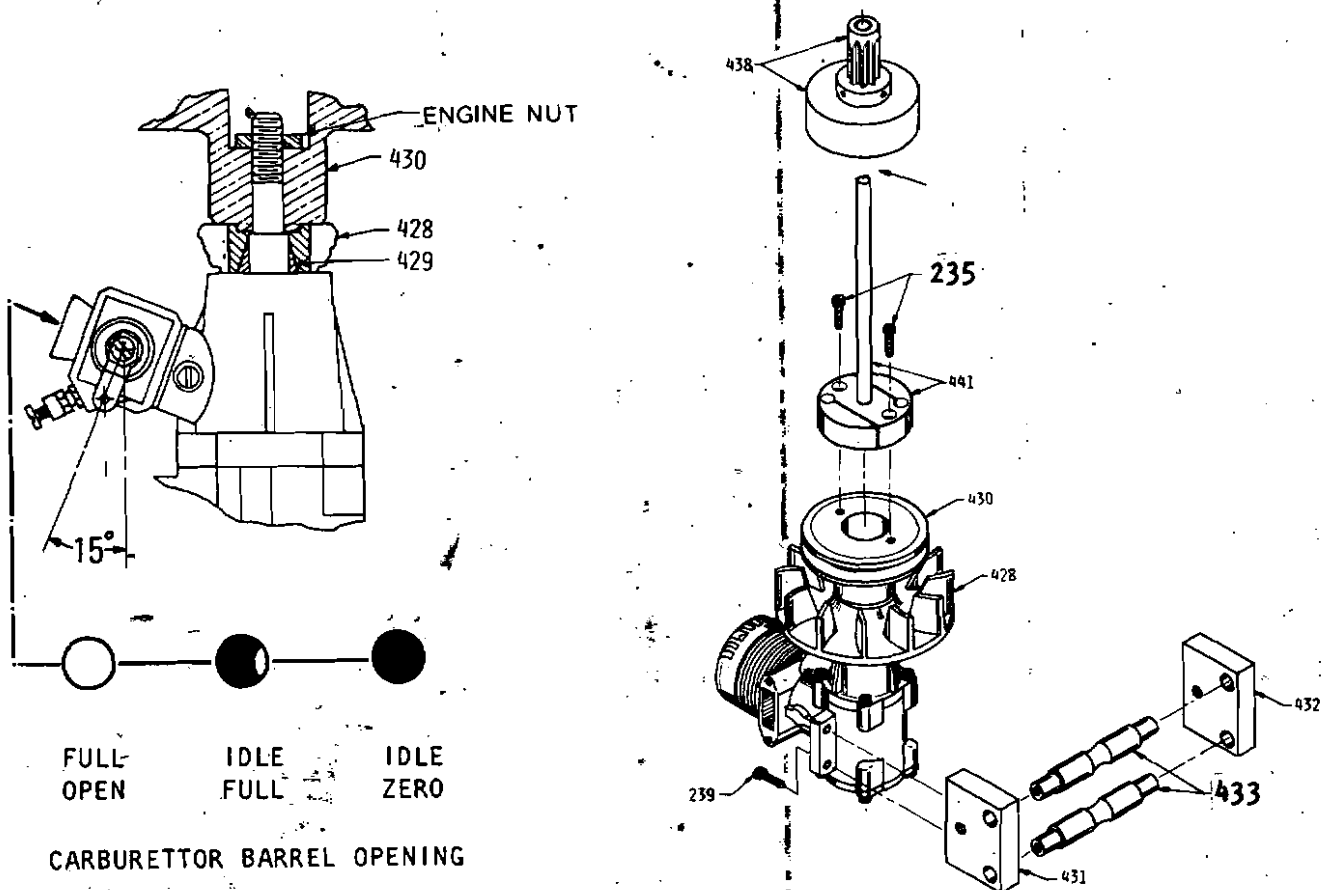

Figure 2
**STEP 2** ENGINE ASSEMBLY - see Figure 2